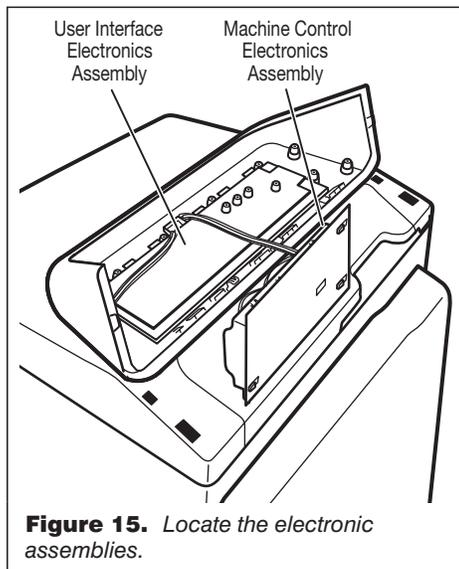

**Figure 14.** Press and release the retainer clips, then pull the panel firmly.
2. Press the retainer clips at the top of the toe panel with a putty knife, and pull the toe panel firmly to remove. See figure 14.